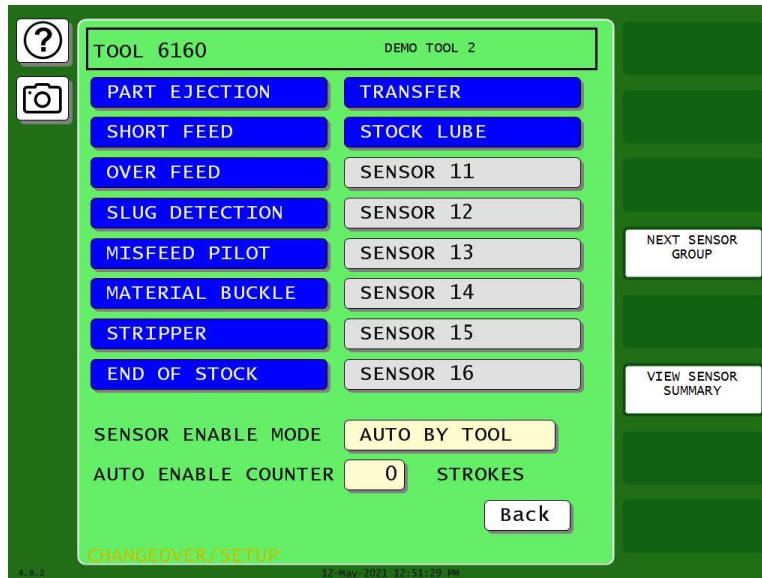

Figure 6-28. Die Protection Sensor Menu with Auto Enable by Tool Counter
1. Select DIE PROTECTION on the Tool Program Menu. The Die Protection Sensor Menu displays, page Figure 6-28, with the AUTO ENABLE COUNTER field at lower left of the screen.
If you select NOT USED, you are returned to the Die Protection Sensor Menu, Figure 6-28, and the name of the sensor you started to program is reset to SENSOR 1, SENSOR 2, etc.